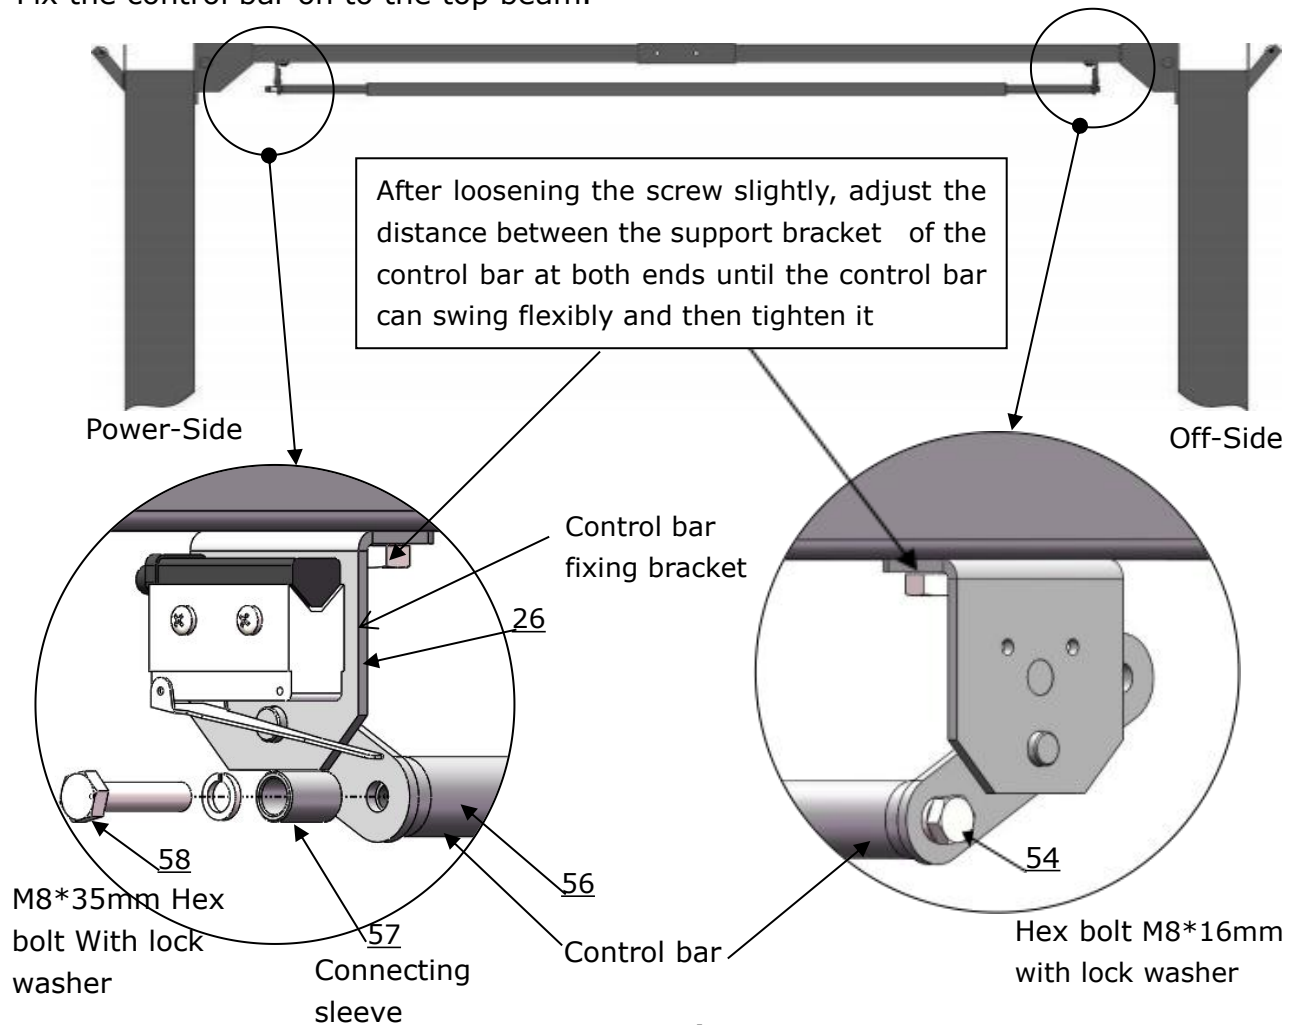

Fig.26
I. Installing the limit control bar and limit switch (See Fig. 26).